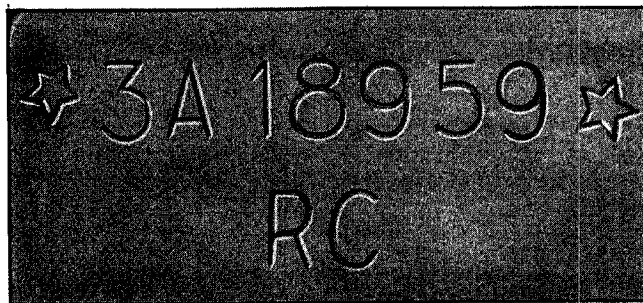

Fig. 8—Typical Unit Number and Model Number As Stamped on Cylinder Block of Single Engine Units.
On Series 71 single engine units, the unit serial number, the rotation (R) or (L), and accessory arrangement (A, B, C or D), are stamped on the blower side of the cylinder block at the right hand corner, as shown in Fig. 8. On certain single engine units such as model 6084, the model number is shown rather than rotation and accessory arrangement.